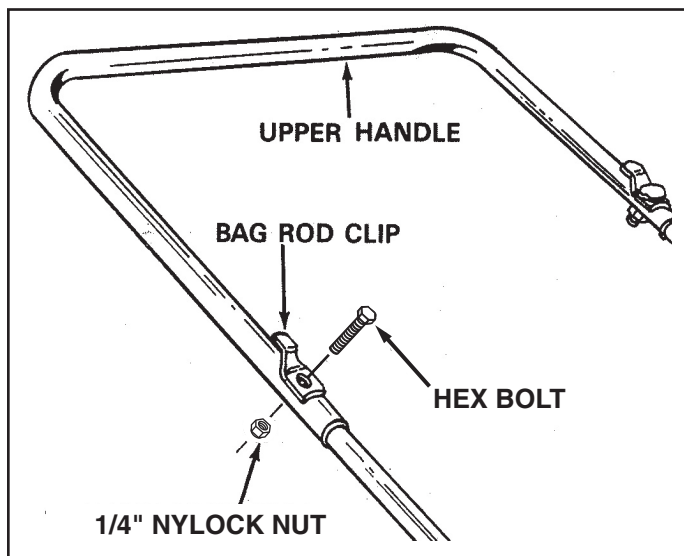

FIGURE 3
- Assemble the Upper Handle Tube over the Handle Leg Stand Tubes. Align holes in handle and assemble the Bag Rod Clips to the handle as shown and fasten with 1/4" x 1-1/4" hex bolts and nylock nuts. See figure 3.